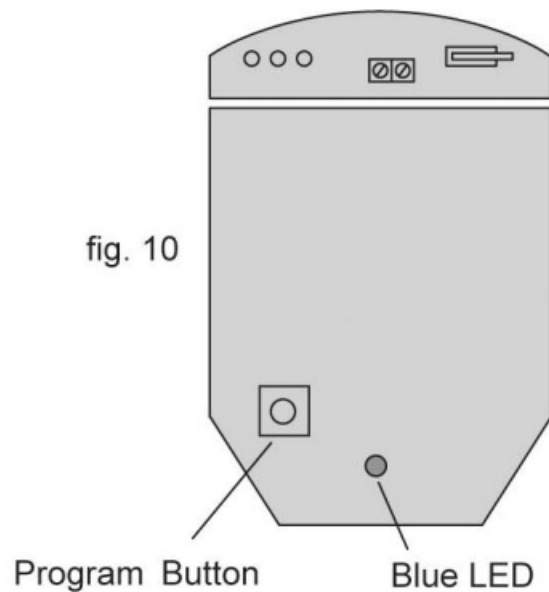

fig. 10
- The user can individually program a number of configurable settings as illustrated in the programming chart. Factory settings are shown as shaded boxes. Changes to the existing settings can easily be made. To reset the factory settings simply remove power from the detector, press and hold the program button (fig. 10) while temporarily applying power to the detector either before installation , with a 9-Volt battery, or by applying 12 Volts to the unit on site.
- Press the program button as shown in fig. 10 for the number of the Option to be changed i.e. once for range, twice for pulse count, three times for LED.